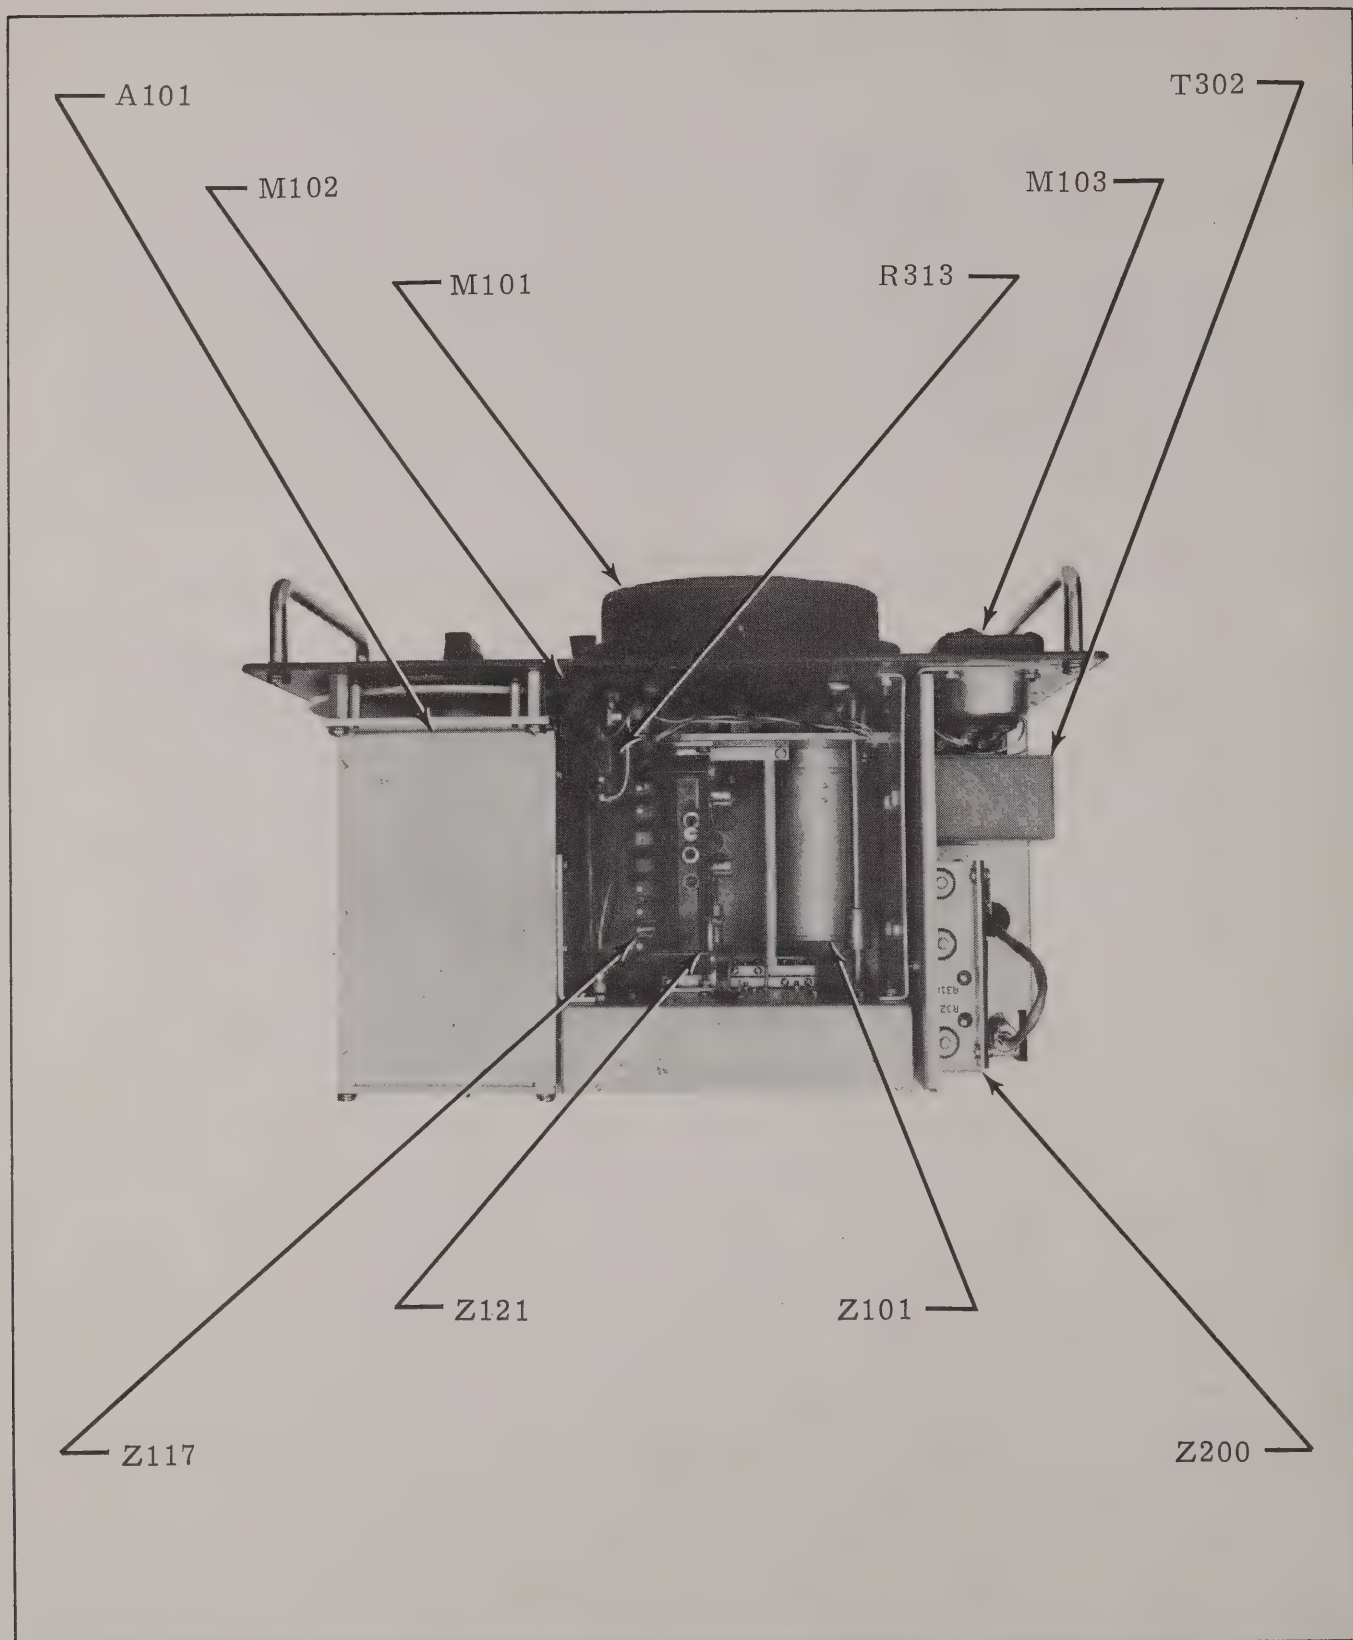

Figure 6-1. Component Location - Top View of RFI Meter
This Section contains a tabulated listing of all electrical components of the NM-25T. Figures 6-1 thru 6-12 illustrate component locations within the unit, and also on the various sub-assemblies, and plug-in circuit boards. Reference designators are assigned to each replaceable part, indicating the type of part; i.e., resistor, capacitor, transistor, etc.
- b) Refer to the appropriate illustration, Figure 6-1 thru 6-12, to locate the component.